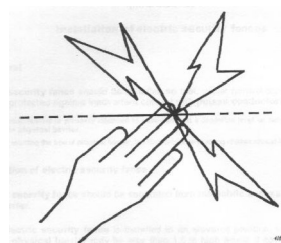

Figure BB1
- > The inscription on the sign is to be black and shall be either the symbol shown in figure BB1 of the Standard, or the substance of "CAUTION: Electric Fence".